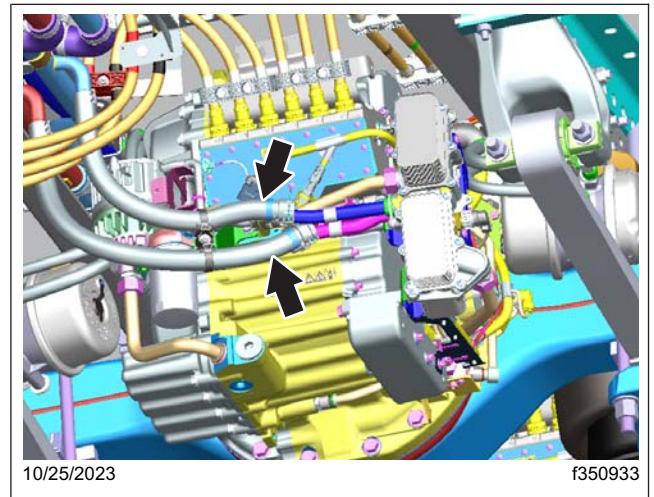

Fig. 9, Location of the Coolant Lines
20. Disconnect the coolant lines from the e-Axle, and let the fluid drain out. See Fig. 9.
67. Connect the coolant lines to the e-Axle. See Fig. 9.